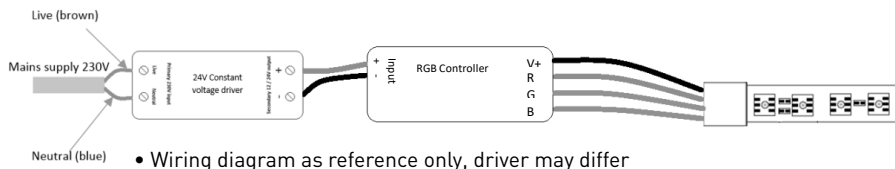

Fig 2
- From the secondary side of the driver connect a red and black cable to the input side of the RGB controller ensuring correct polarity is observed (+ Red) (- Black) (see Fig 2)
Terminate cables from the RGB strip to the RGB controller (black to V+) (red to R) (green to G) (blue to B) (See Fig 2)